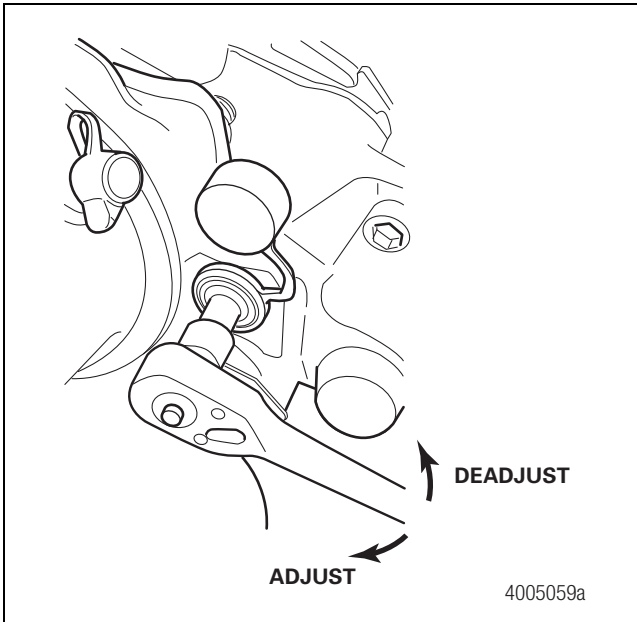
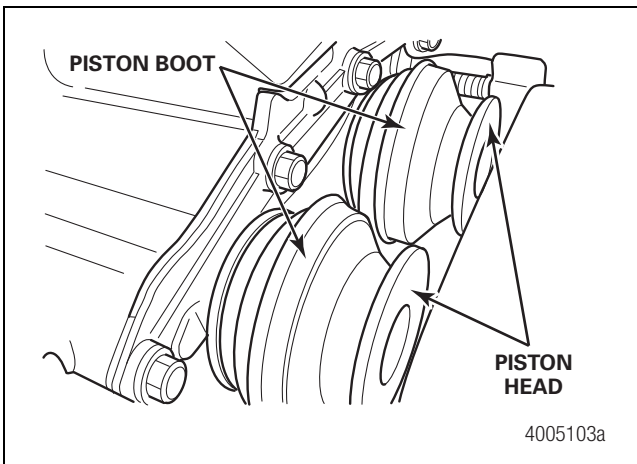

Figure 5.11
Figure 5.12
- Use a 10 mm wrench to rotate the manual adjuster stem **CLOCKWISE** until the piston assemblies are extended approximately two-inches (50 mm). Figure 5.11 and Figure 5.12.